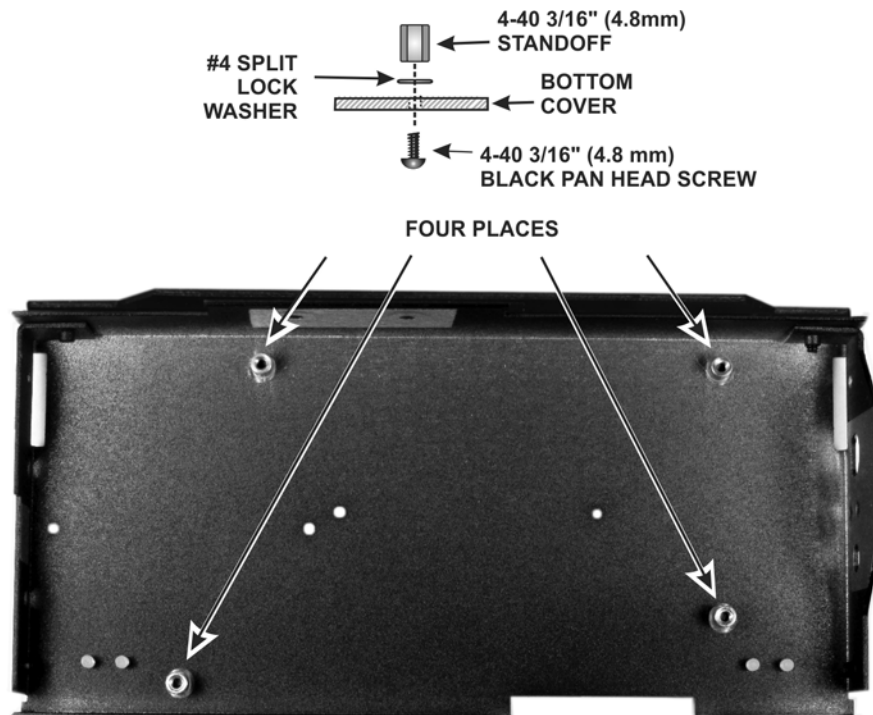

Figure 32. Installing 4-40 Standoffs in the Bottom Cover.
- ☐ Install the four #4 (larger) standoffs in the bottom cover as shown in Figure 32.